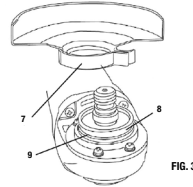

FIG. 3
3. Remove the disc flange (4). It will simply pull off the spindle (5).
5. Slide the guard clamp (7) over the spindle housing (8) until the detents mate with the groove (9) in the spindle housing (Fig. 3).